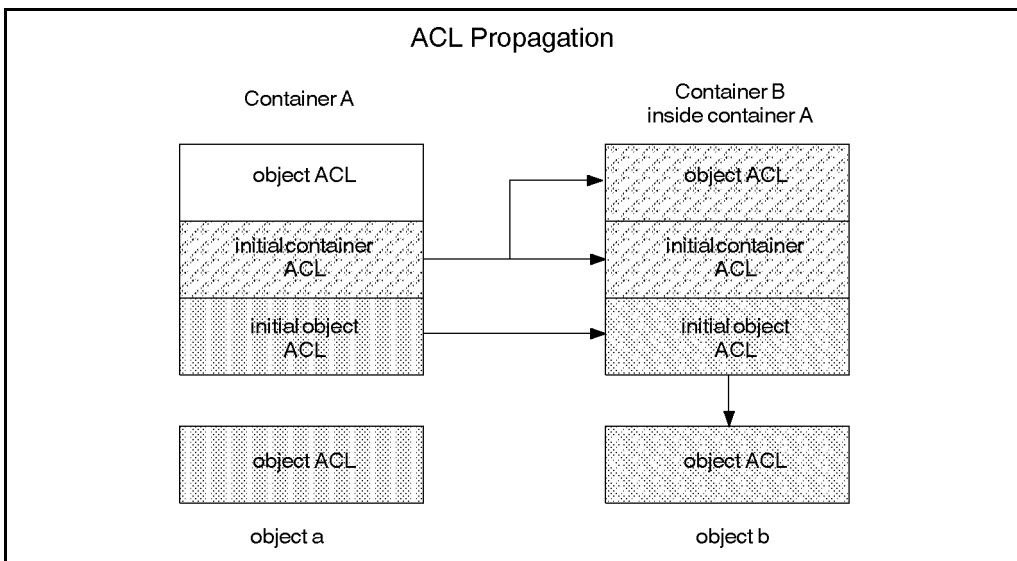

Figure 8-1. Propagation of DCE Permissions
- The parent container IC ACL becomes both the IC ACL and the object ACL of the child container. Referring to Figure 8-1, the IC ACL and object ACL of Container B are inherited from the IC ACL of Container A. For example, the IC ACL and the object ACL of a `server` are inherited from the IC ACL of the `/.:/pdsec` directory.
- The parent container IO ACL becomes the IO ACL of the child container. Referring to Figure 8-1, the IO ACL of Container B is inherited from the IO ACL of Container A. For example, the IO ACL of a `server` entry and a `printer` entry are inherited from the IO ACL of the `/.:/pdsec` directory.
- The parent container IO ACL becomes the object ACL of the child entry. The parent container IC ACL has no effect. Referring to Figure 8-1, the object ACL of object `b` is inherited from the IO ACL of Container B. For example, the object ACL for a logical or physical printer is inherited from the IO ACL of the `printer` directory of the server containing that printer. The permissions are propagated from the IO ACL of the `/.:/pdsec` directory through the `supervisor` and `printer` containers.